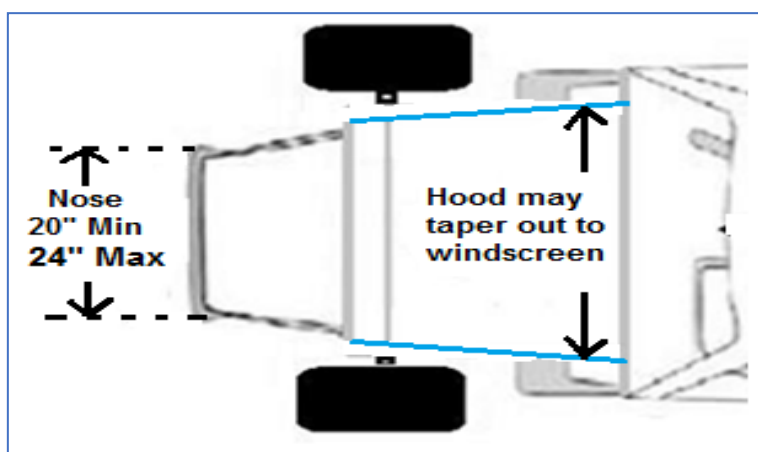

Figure 6
8.3 No part of nose section, 8" inches in front of the lower ball joint, may be wider than 24" or narrower than 20" (*Figure 6*). (Cars manufactured prior to the 2018 production year with the narrow nose will be grandfathered)
8.4 Rear of hood may taper out to door panels (*Figure 6*).